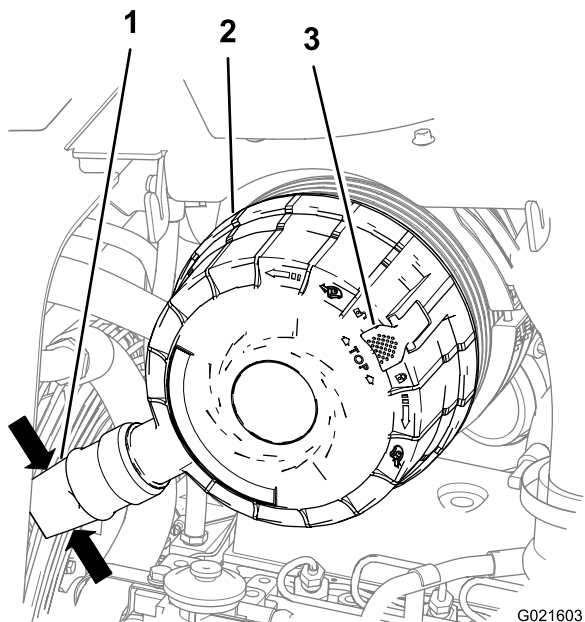

Figure 78
3. Squeeze the sides of the dust valve on the air-cleaner cover to release any collected water, dust, or dirt from the valve. (Figure 78).
5. Pull the latch for the air-cleaner cover outward (Figure 78).